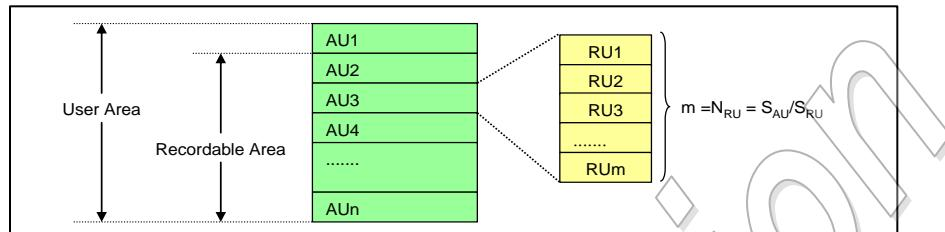

Figure 4-47 : Definition of Allocation Unit (AU)
4.13.1.1 Allocation Unit (AU)
The User Area is divided into units called "Allocation Unit (AU)" (Refer to Figure 4-47). AU is physical boundary in User Area of a card and is not defined by the file system boundary. Each card has its own fixed **AU Size (S_{AU})** and the maximum AU Size is defined depending on the card's capacity. The host
4.13.1.2 Recording Unit (RU)
Each AU is divided into units called "**Recording Unit (RU)**" (Refer to Figure 4-47). The unit of **RU Size** (S_{RU}) is 16KByte. The RU Size is a multiple of 16KByte and shall not span across an AU boundary.